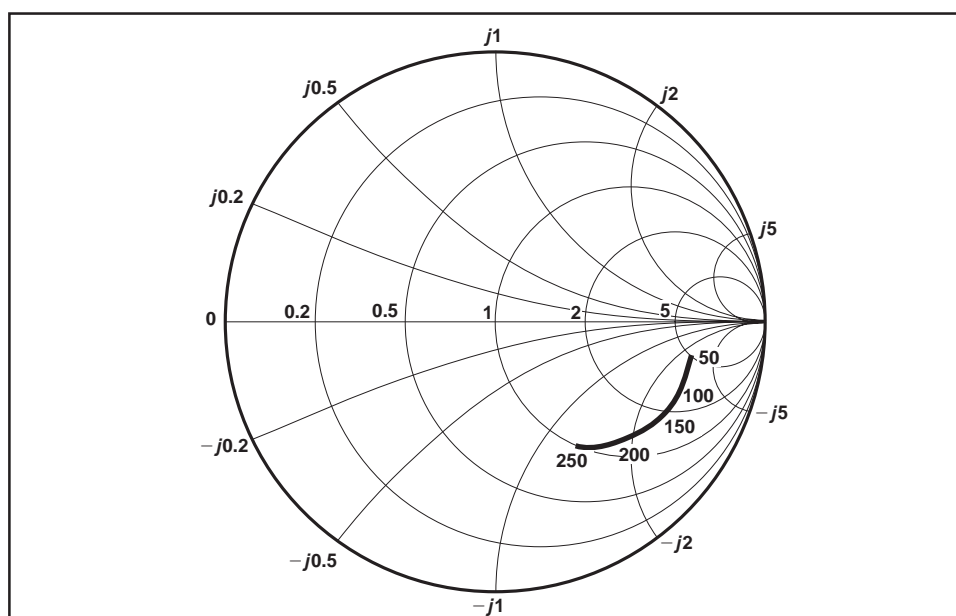

Fig. 5 Typical input impedance. Test conditions: Supply Voltage = 5V, Ambient Temperature = 25°C. Frequencies in MHz, impedances normalised to 50Ω.
4. Input impedance is a function of frequency. See Fig. 5.